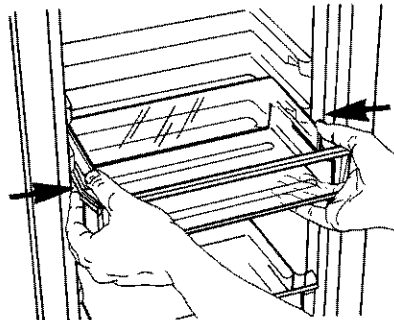

FIGURE 74
1. Take hold of bucket. See Figure 74.